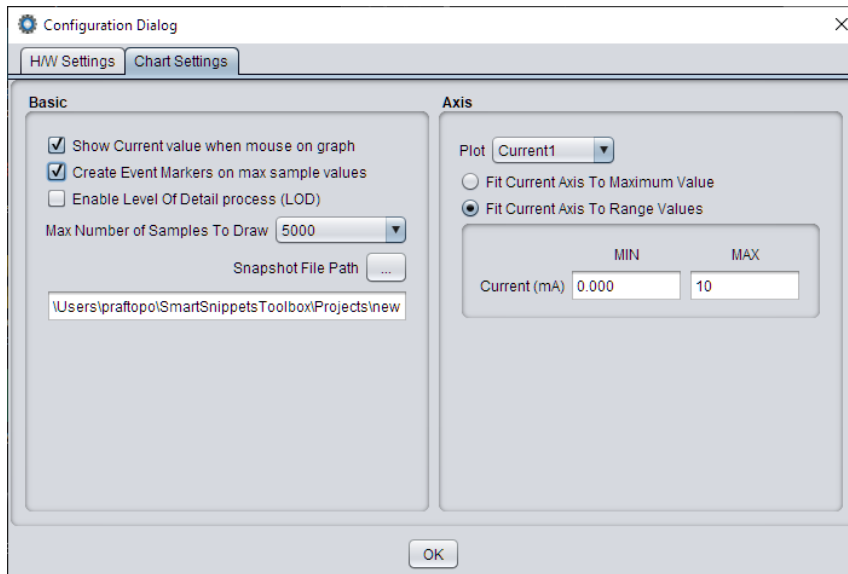

Figure 42: Power Profiler Chart Settings
5. Optionally, set a max scale for the waveform window, because typically there are large peaks on wake-up from sleep (charging capacitors), so the useful part of the signal is compressed to a very small area. To set a max scale for the waveform window, access the **Chart Settings** tab (Figure 42) and set the max scale of **Current1** to 10 mA. Note that this does not affect in any way the accuracy of measurement. It only zooms in the waveform that is shown on the viewer window.